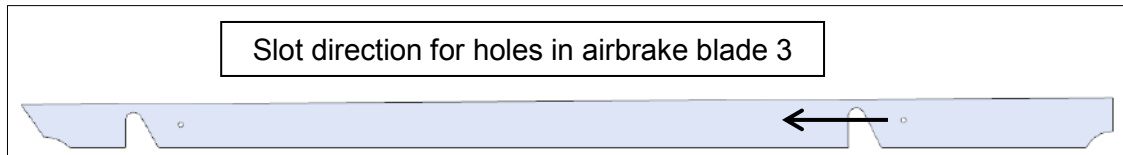

Figure 27-40: Slot holes towards airbrake blade 3 outer edges
2. Lightly slot one of the holes until the blade is no longer bent (Figure 27-40).